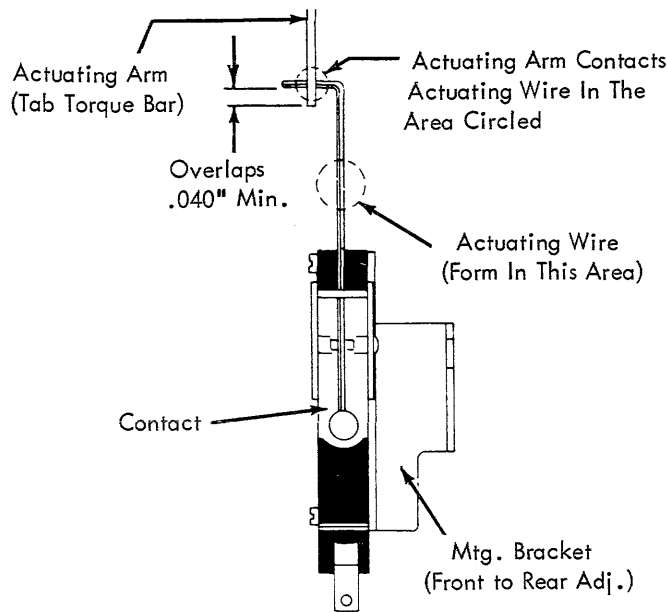

FIGURE 174. Interlock Contact (Early)
- a. Form (in circled area) the actuating wire (left or right) so that it contacts the actuating arm near the right angle bend (Fig. 174).
- b. With the tab interposer released and the Tab/Sp/BS cam on its high point, position the mounting bracket (front to rear) so that the actuating arm overlaps (.040" minimum) the actuating wire (Fig. 174). This insures that the actuating wire does not get above the actuating arm.